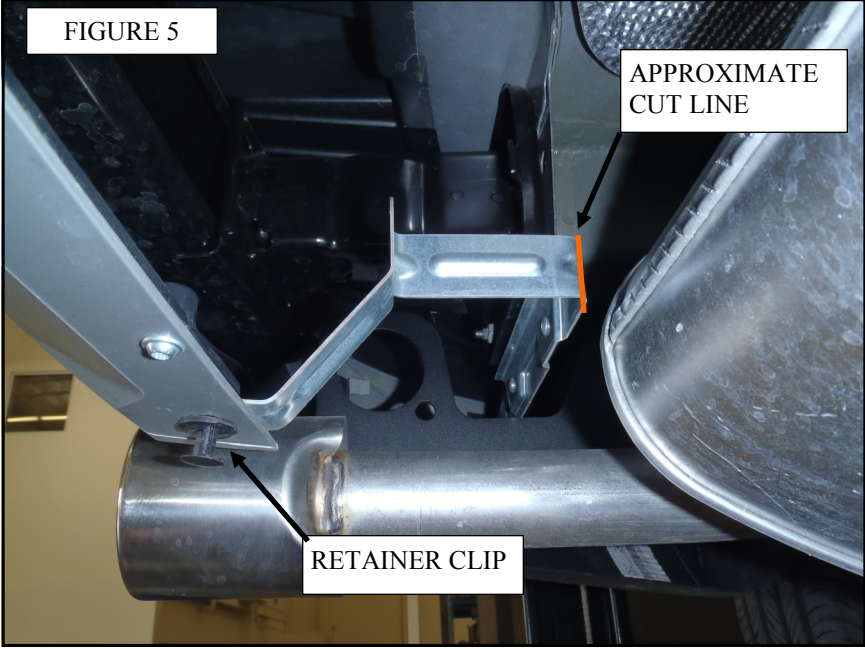

FIGURE 5
- To continue installation, the rear bumper cover is held by a plastic retainer located at the bottom near each exhaust cut-out. This clip has to be removed temporarily. The thin gauge bracket holding the backside needs to be cut off to allow the main hitch assembly to pass over the exhaust tips. FIGURE 5